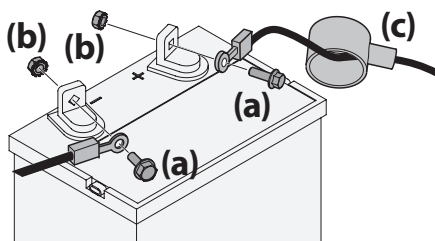

Figure 11
1. If present, remove the plastic cover from the positive battery terminal. Attach the red connector to the positive battery terminal (+) using the bolt (a) and hex nut (b). See Figure 11.
2. If present, remove the plastic cover from the negative battery terminal and attach the black cable to the negative battery terminal (-) with the bolt (a) and hex nut (11). See Figure 11.
3. Position the red rubber boot (c) over the positive battery terminal to help protect it from corrosion. See Figure 11.